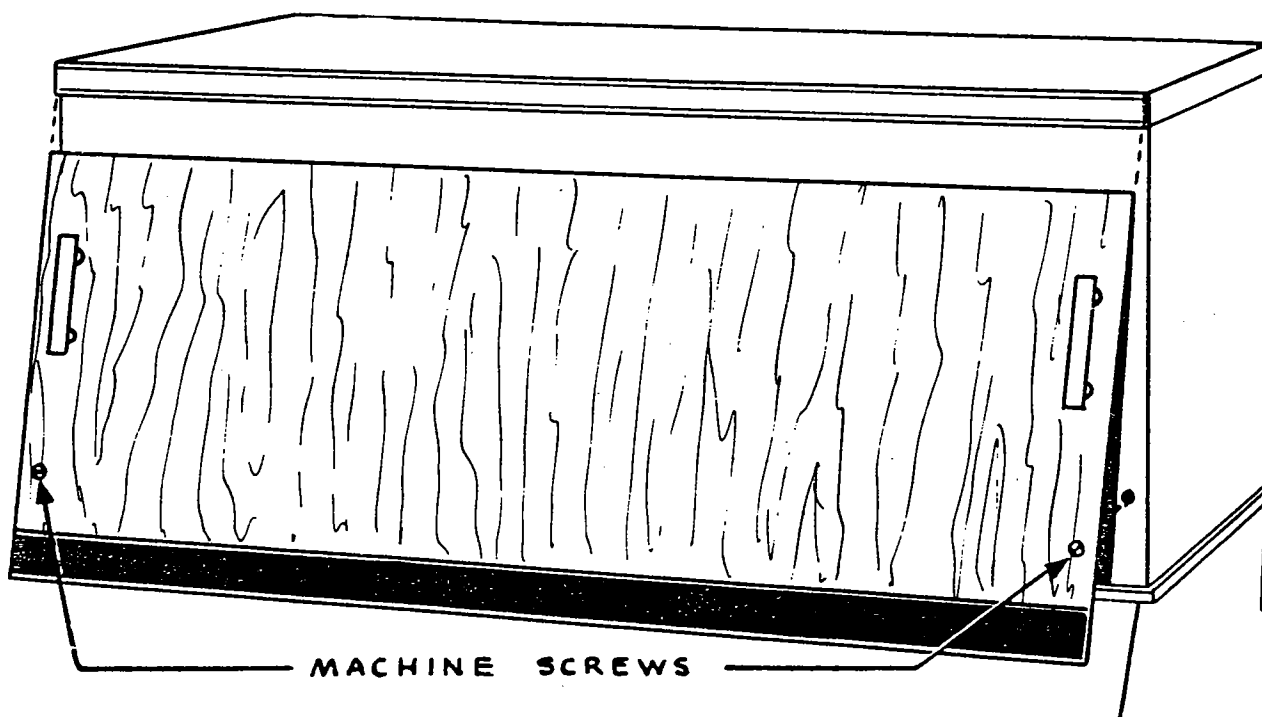

Fig. 6
**FRONT PANEL REMOVAL (See Fig. 6.)**